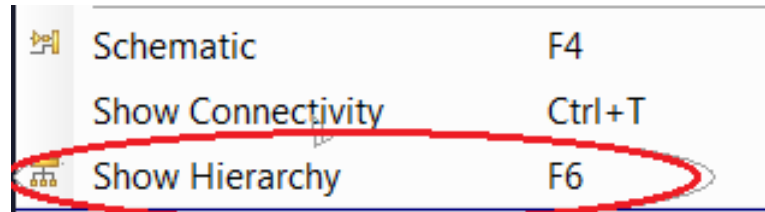

Figure 20: Show Hierarchy Option
2. Select Show Hierarchy, as shown in Figure 20.